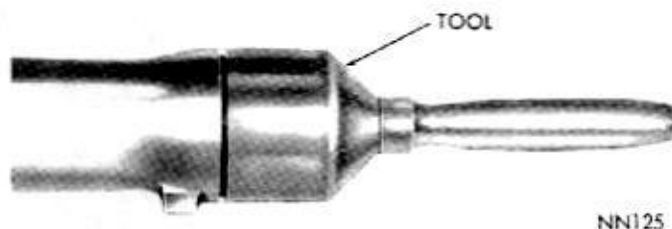

Fig. 12—Installing Extension Housing Yoke Seal
(4) To install a new seal, position seal in opening of extension housing and drive it into housing with Tool C-3972 (Fig. 12).